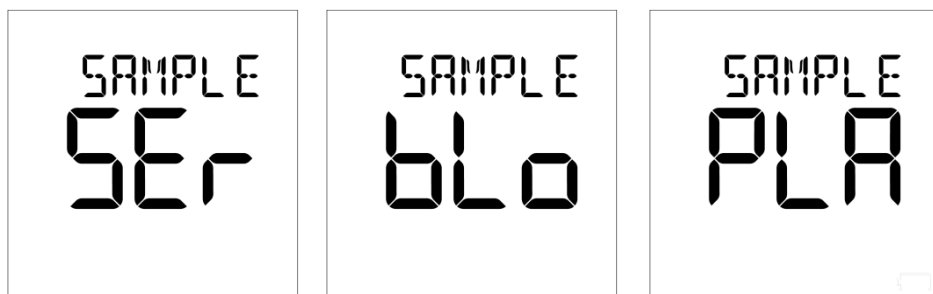

Fig 5.38
- Press the right or left button to select the sample, blood sample can be selected “SEr” (serum) or “bLo” (whole blood) or “PLA” (plasma) as Fig 5.38.